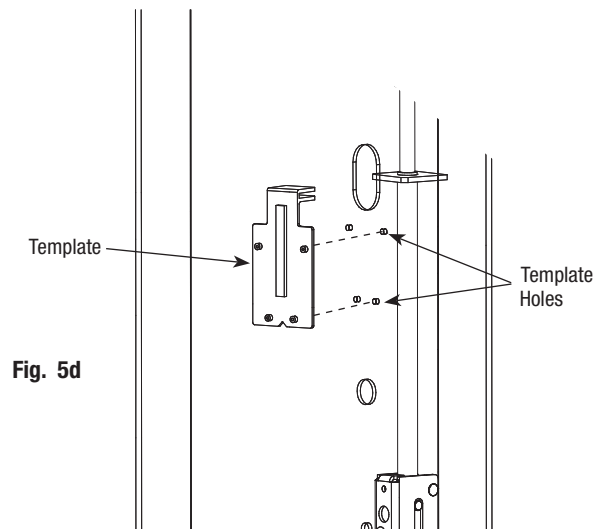

Fig. 5d
4. Using template bushings as a guide, drill (4) 1/16" holes. (See Figure 5d).